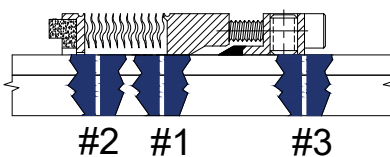

Figure 15: Step 9.
9. Fix the drive hub in position by alternately tightening the provided cup point set screws to the recommended torque values in the table below (Figure 15).